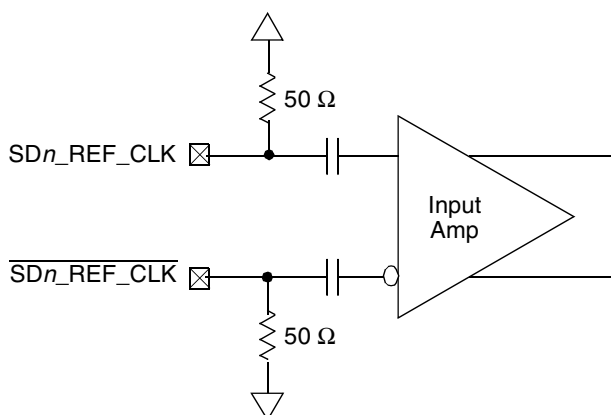

Figure 52. Receiver of SerDes Reference Clocks
Figure 52 shows a receiver reference diagram of the SerDes reference clocks.
- The SDn_REF_CLK and $\overline{SDn_REF_CLK}$ are internally AC-coupled differential inputs as shown in Figure 52. Each differential clock input (SDn_REF_CLK or $\overline{SDn_REF_CLK}$) has a 50 Ω termination to SGND_SRDSn (xcovss) followed by on-chip AC-coupling.